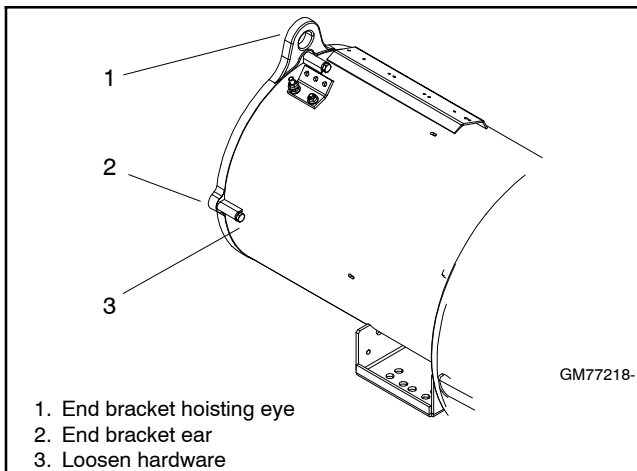

Figure 11-13 Removing End Bracket
29. Lower the stator assembly. Loosen the end bracket mounting bolts. Separate the end bracket from the stator by tapping loose with a rubber mallet at the hoisting eye and mounting ears. Remove the end bracket mounting bolts. See Figure 11-13.